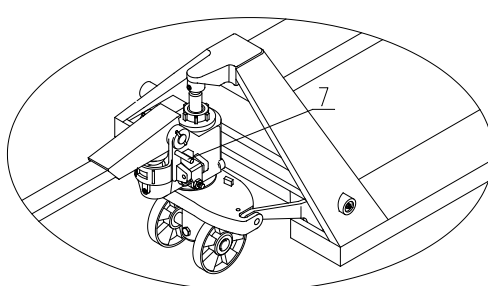

Fig. 3
3.6 See fig 3, turn the hand grip to the level position, pull out pin 7 and save pin 7 with care for next use.